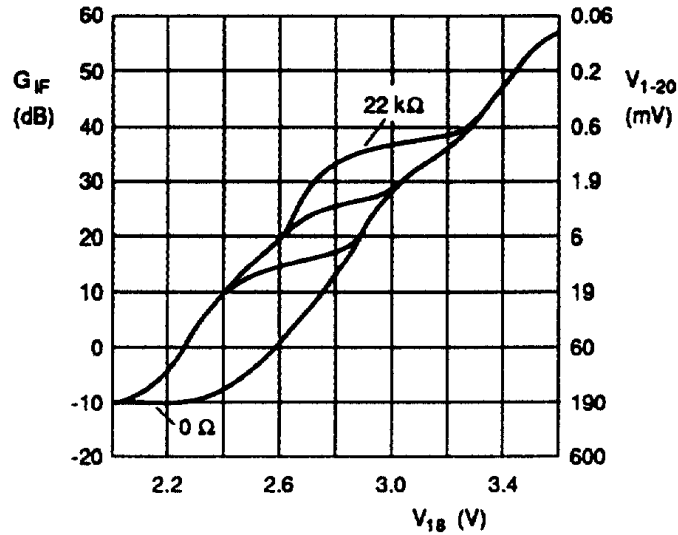

Fig.5 AGC characteristics with different values of R2.
3. The starting point of tuner AGC can be adjusted by the resistor at pin 2. Fig.5 shows the AGC characteristic.